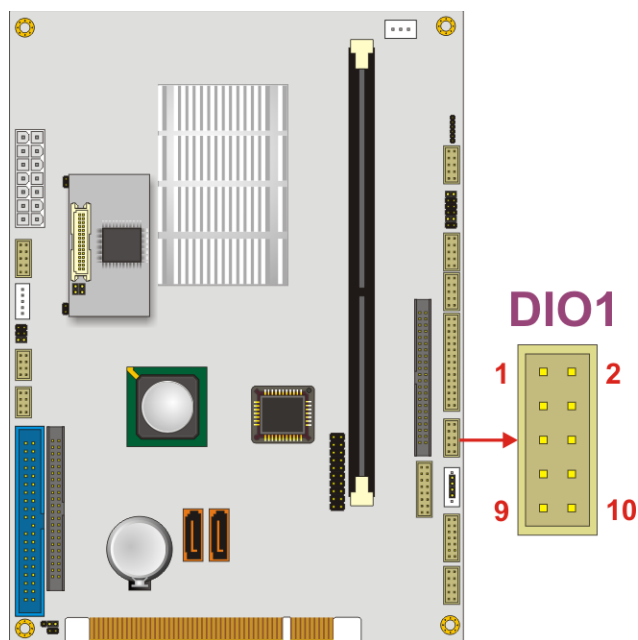

Figure 3-5: DIO Connector Location
- CN Location:** See Figure 3-5